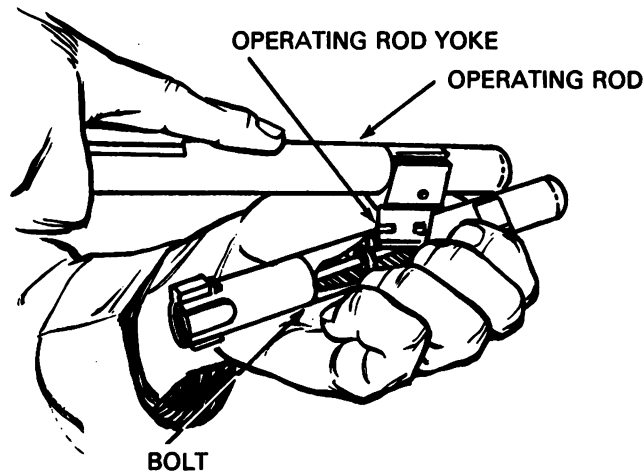

Figure 7. Separating the bolt from the operating rod.
(7) Grasp the bolt in one hand with the bolt face toward the body, operating rod on top, grasp the operating rod securely in the other hand. Push forward on the operating rod, pivot the front of the operating rod up, and disengage it from the bolt (figure 7).